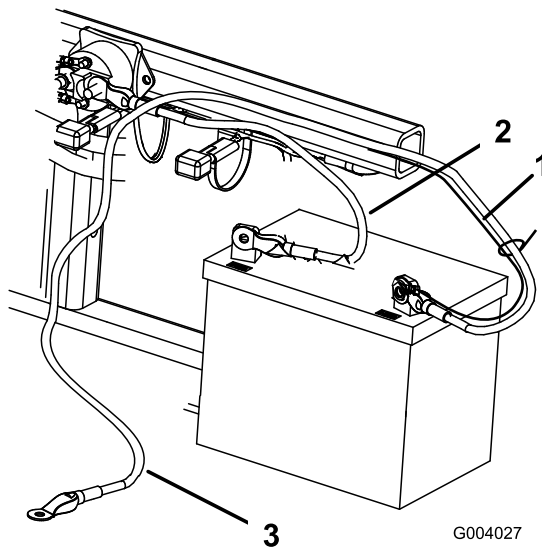

Figure 5
2. Secure the positive cable (red) to the positive (+) terminal with a 1/4-20 x 5/8 inch bolt and locknut (Figure 5).
3. Secure the small black wire and the negative cable (black) to the negative (-) terminal of the battery with a bolt (1/4 x 5/8 inch) and locknut (1/4 inch) (Figure 5).